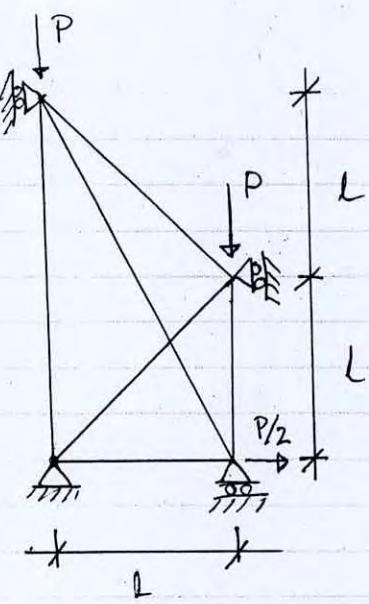

Fig. 10 (for Q.no.10)
10. Determine the stiffness equation in matrix form for the truss shown in Fig. 10. Assume that the members have same axial rigidity. (21)